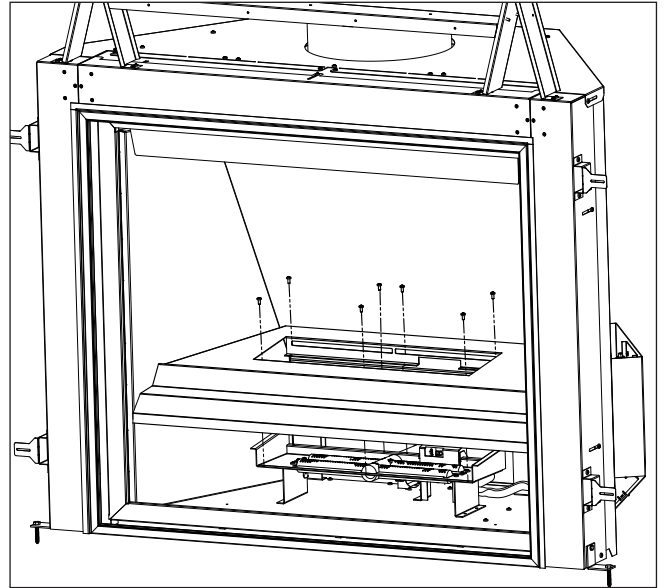

Figure 8: Porcelain Tray Removal
5. Remove the Porcelain Tray by removing the seven (7) T20 screws around the boarder of the burner recess (see Figure 8).